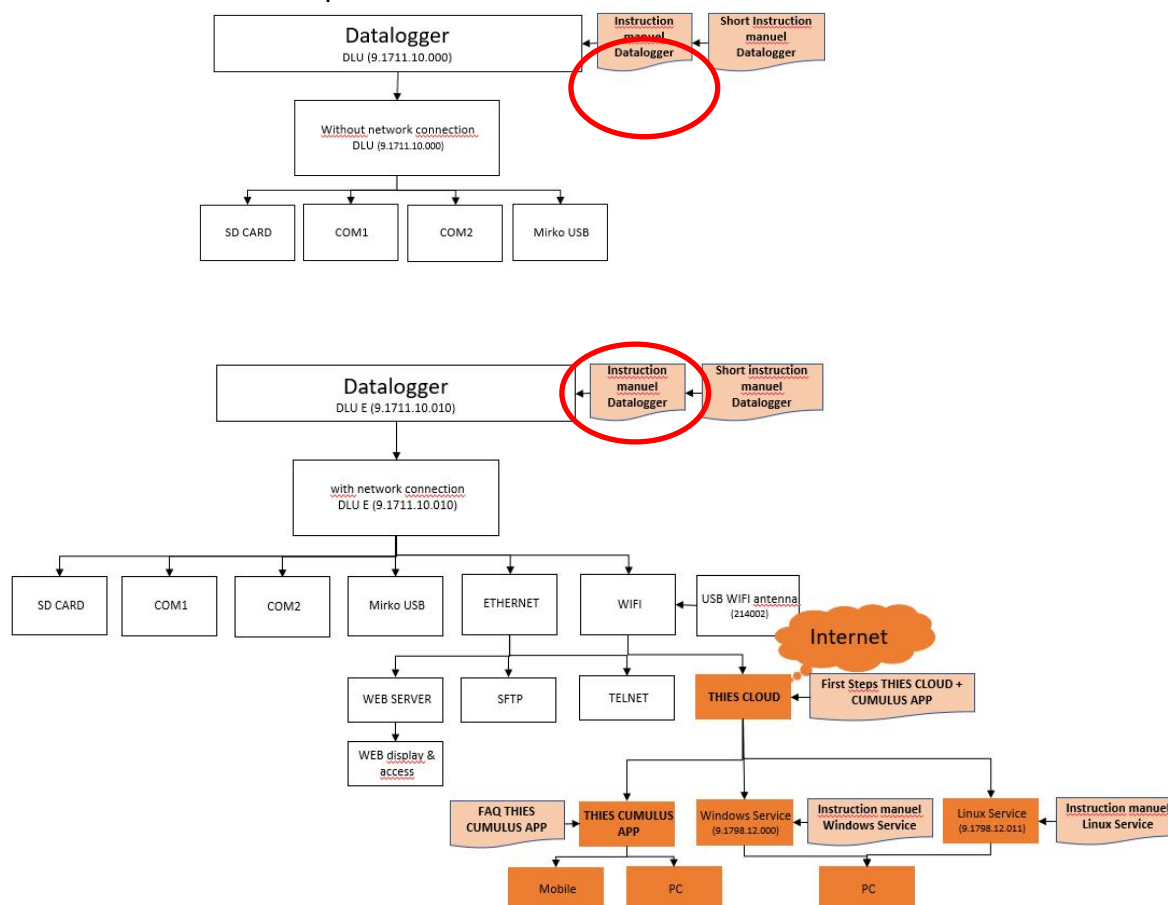

Figure 1: Application options
- Micro USB (see **Figure 1**, marking ①).
- Ethernet (see **Figure 1**, marking ③).
- USB (see **Figure 1**, marking ④) is used for the accessory USB WLAN antenna.